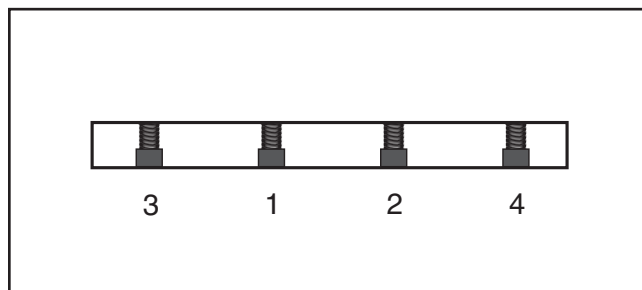

Figure 68. Gib bolt tightening sequence.
7. Rotate the cutterhead to the first knife you adjusted. Slightly tighten all the gib bolts, starting at the middle and working your way to the ends by alternating left and right (see **Figure 68**). Repeat this step on the rest of the knives.